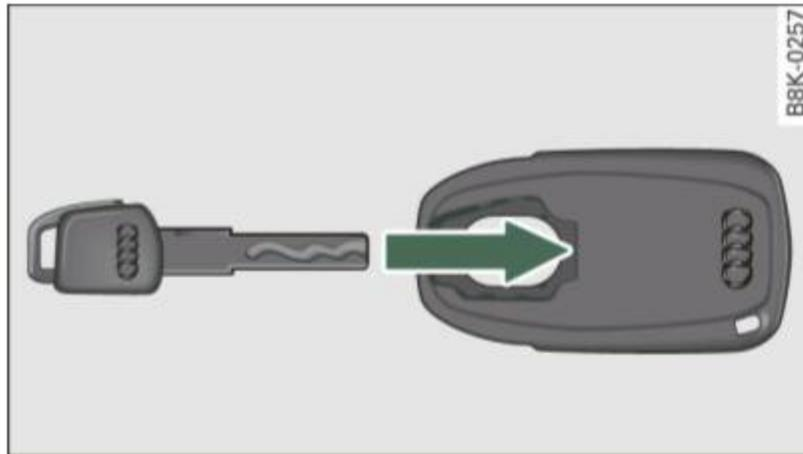

Fig. 33 Insert emergency key into the adapter
- Push the emergency key ⇒ fig. 33 fully into the adapter. Make sure that the Audi rings are facing up.